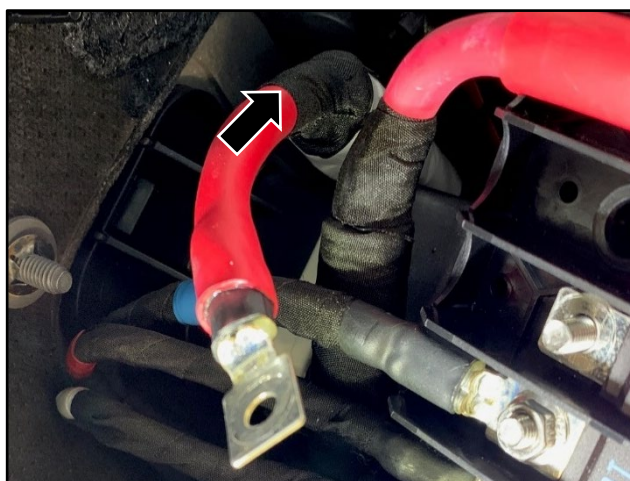

Figure 9
3. Apply protective tape to the cable (refer to Figure 9).